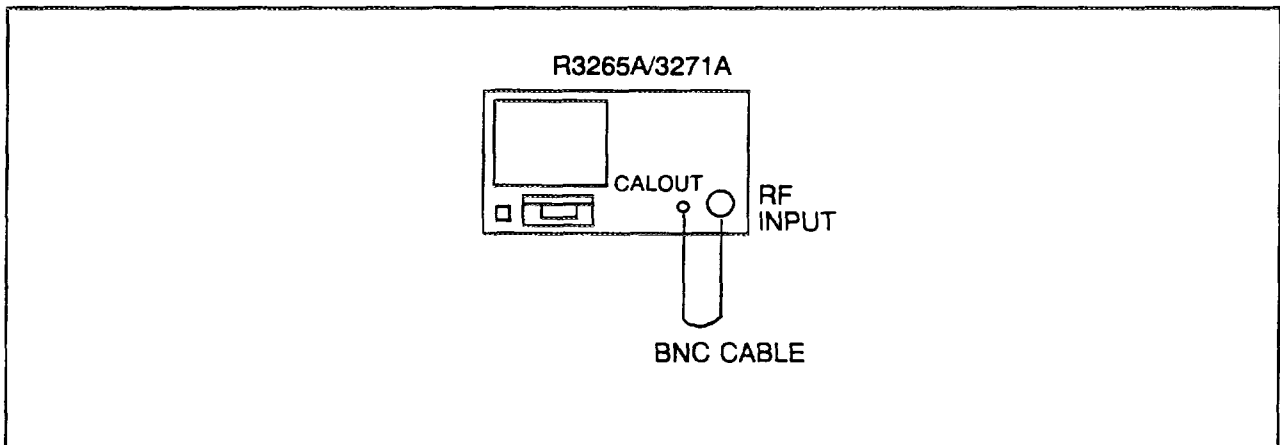

Figure 4-7 Reslution Bandwidth Accuracy/Selectivity Setup
- Connect the R3265A/3271A CALOUT to the INPUT 50Ω as shown in Figure 4-7.